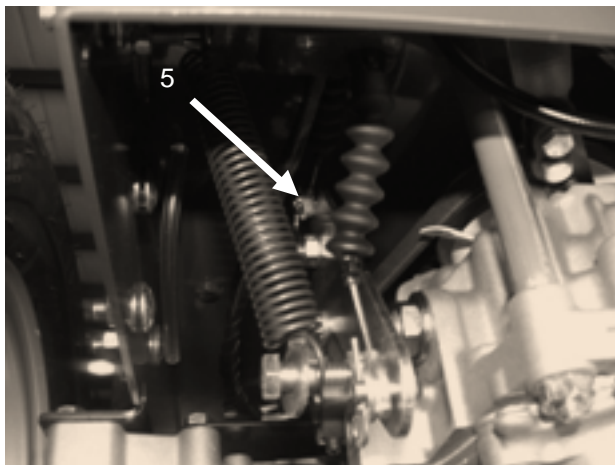

Figure 37
5. Remove hairpin cotter and washer **Figure 37**.